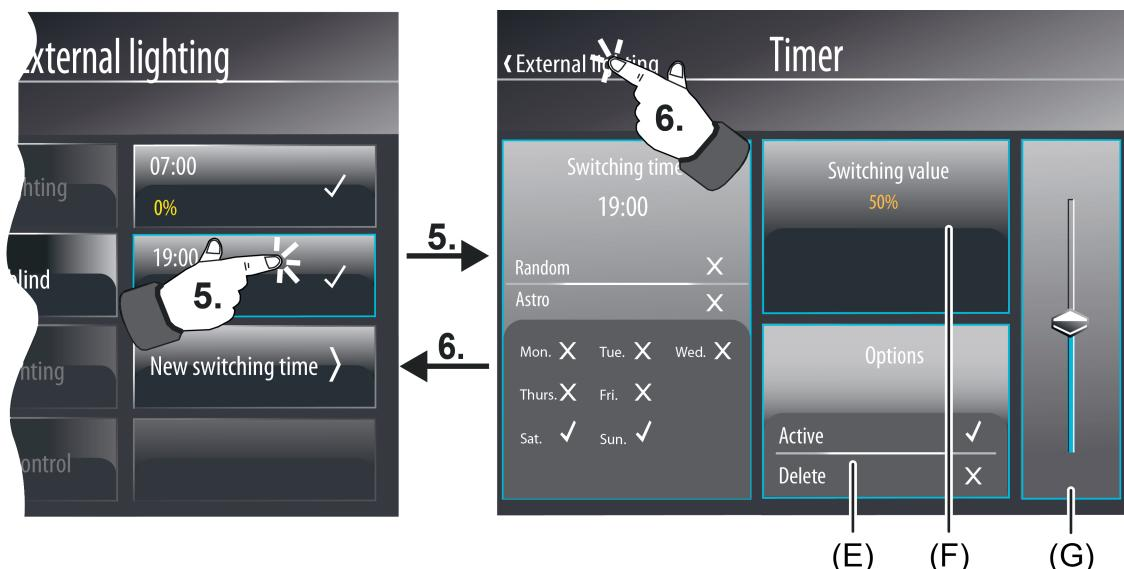

Figure 87: Example of a configuration page for switching times (right) -
With the data types "value" (figure 87), however, the display area is only characterised with a status value (F). If this display area is pressed long (approx. 1 second), the device displays an on-screen keyboard. A new switching value can be preset directly using this keyboard. Alternatively, new switching values can be preset by the value slider in the operating area (G).